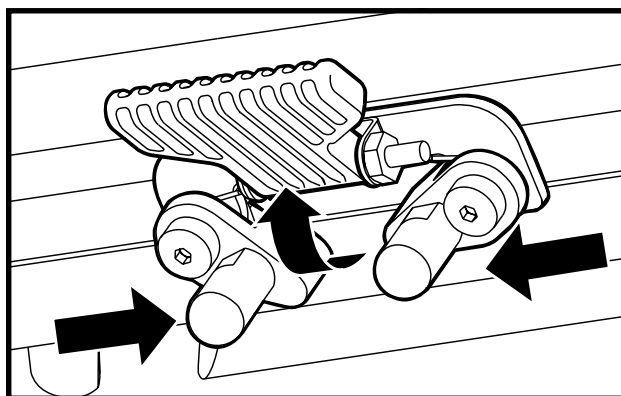

Figure 16. Seat Latch Safety (Disengaged)
3. Flip up the seat latch safety. See figure 16.